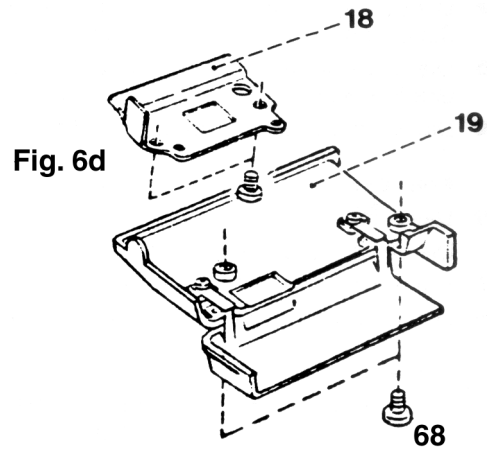

Fig. 6d
- Turn out both free-arm cover retaining screws 68 (fig. 6d).
- Fit gear housing cover 18 with the retaining screws and connect the spring (fig. 6d).